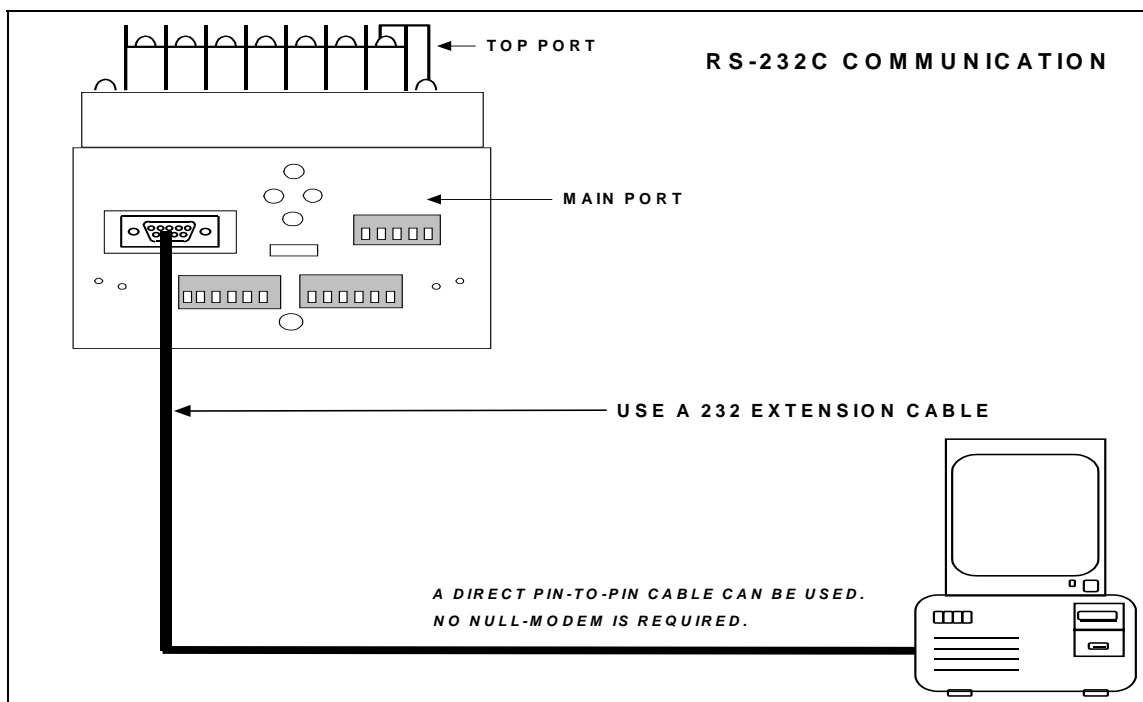

Figure 4.1: RS232C Communication Connection Installation
- Use the Top Port for MODBUS, DNP, RTU and ASCII protocols (see Figure 4.1, below).
- Use the Main Port for Futura+ Communicator protocols (see Figure 4.1, below).